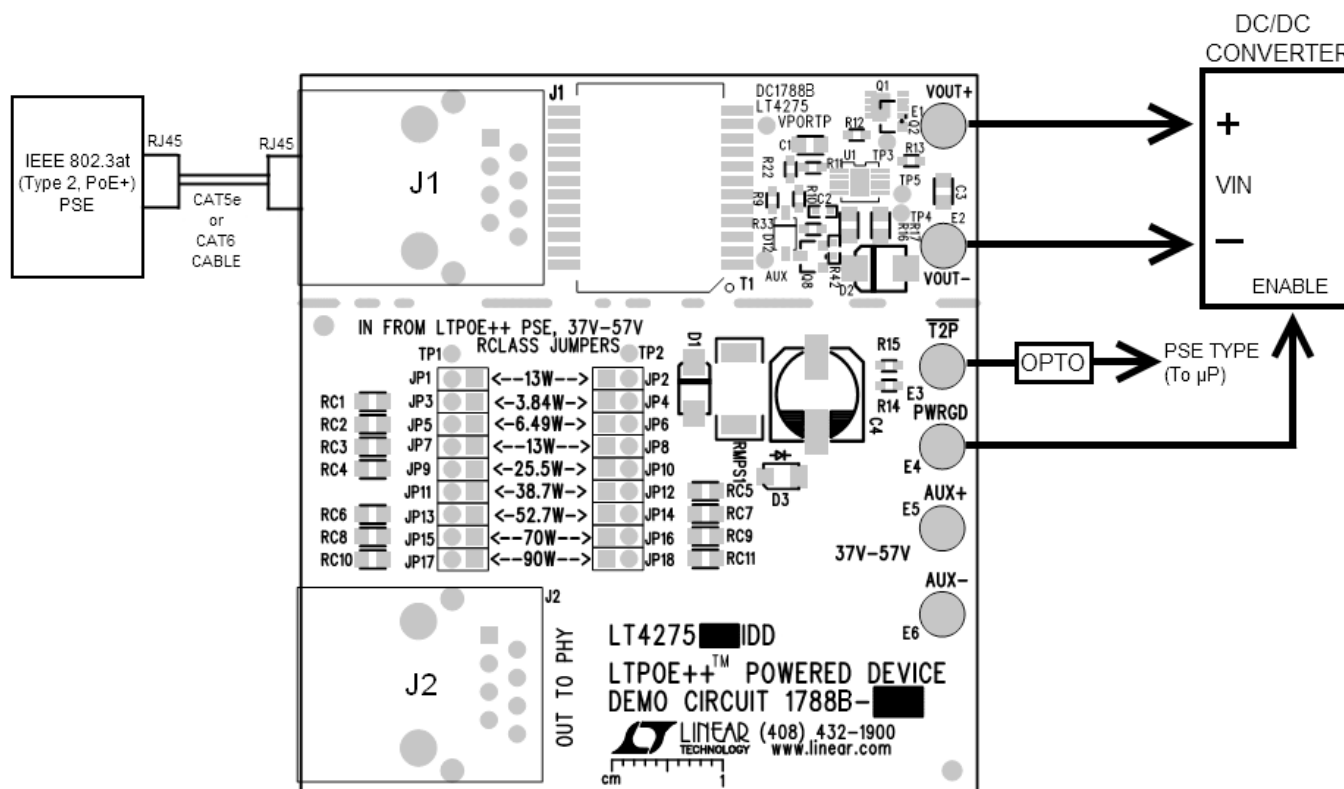

Figure 2. Setup Diagram for the DC1788B-B with a DC/DC Converter, a Microprocessor, and a Type 2 PSE
1. Refer to Figure 2 to evaluate the DC1788B-B with a DC/DC converter. If a resistive load is used to evaluate the DC1788B-B, connect the load by hand between VOUT+ and VOUT- after the LED (D3) is lit. It is recommended to disconnect the resistive load before powering down the DC1788B-B, so at the next turn on the load is disconnected. If the load is not connected and disconnected by hand properly, the PD may not power on. Contact field applications engineers for further details.